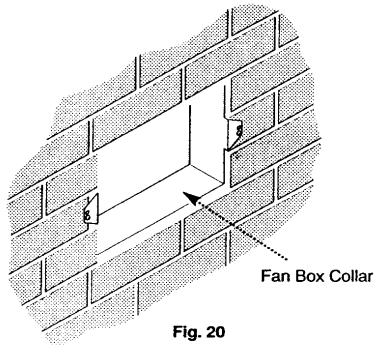

Fig. 20
4. Taking note which is the top, undo the screws securing the fan box to the fan box collar. Slide the collar into the wall (Fig. 20), mark the fixing holes and remove. Below each collar fixing hole also drill a 10mm diameter recess to accept the threaded bushes in the collar.
5. Drill and plug the holes and refit the collar using suitable screws. Any gaps around the edges should be sealed (Fig. 20).